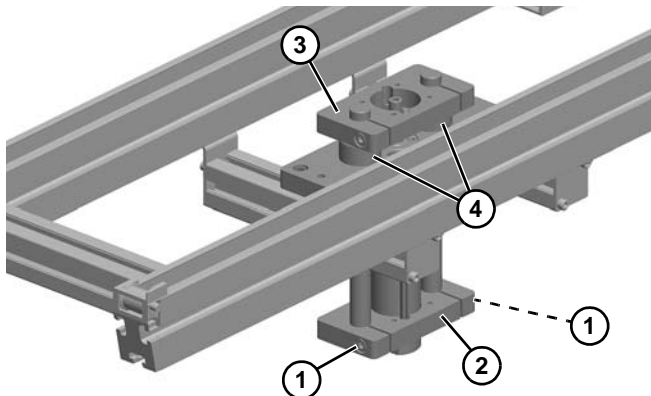

Figure 126
8. Loosen socket head screws (**Figure 126, item 1**) and remove bottom plate (**Figure 126, item 2**).
9. Remove top plate with shafts (**Figure 126, item 3**) from bearings (**Figure 126, item 4**).